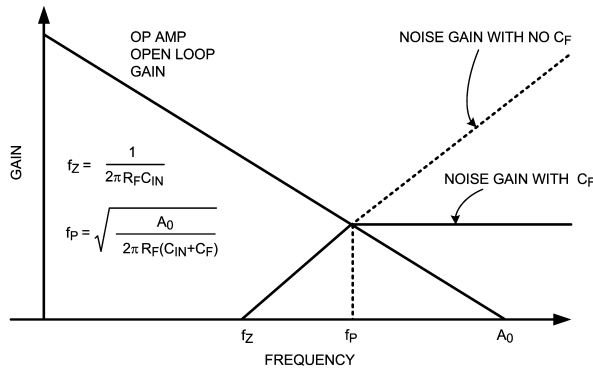

FIGURE 9. C_F Selection for Stability
An essential component for obtaining a maximally flat response is the feedback capacitor, C_F . The capacitance seen at the input of the amplifier, C_{IN} , combined with the feedback capacitor, R_F , generate a phase lag which causes gain-peaking and can destabilize the circuit. C_{IN} is usually just the sum of C_D and C_{CM} . The feedback capacitor C_F creates a pole, f_p in the noise gain of the circuit, which neutralizes the zero in the noise gain, f_z , created by the combination of R_F and C_{IN} . If properly positioned, the noise gain pole created by C_F can ensure that the slope of the gain remains at 20 dB/decade till the unity gain frequency of the amplifier is reached, thus ensuring stability. As shown in *Figure 9*, f_p is positioned such that it coincides with the point where the noise gain intersects the op amp's open loop gain. In this case, f_p is also the overall -3 dB frequency of the transimpedance amplifier. The value of C_F needed to make it so is given by *Equation (3)*. A larger value of C_F causes excessive reduction of bandwidth, while a smaller value fails to prevent gain peaking and instability.